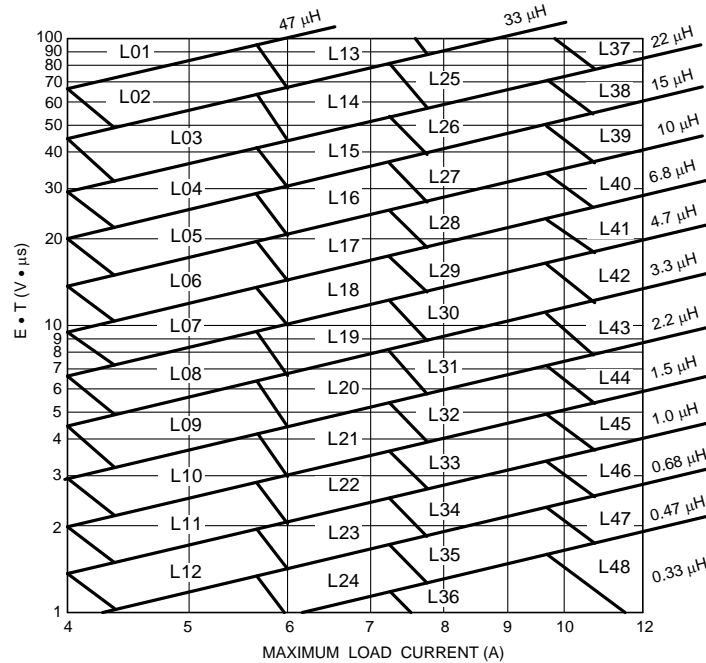

Figure 14. Inductor Nomograph
4. Determine Inductor Required Using Figure 14
To use the nomograph in Figure 14, calculate the inductor volt-microsecond constant ET from the following formula: